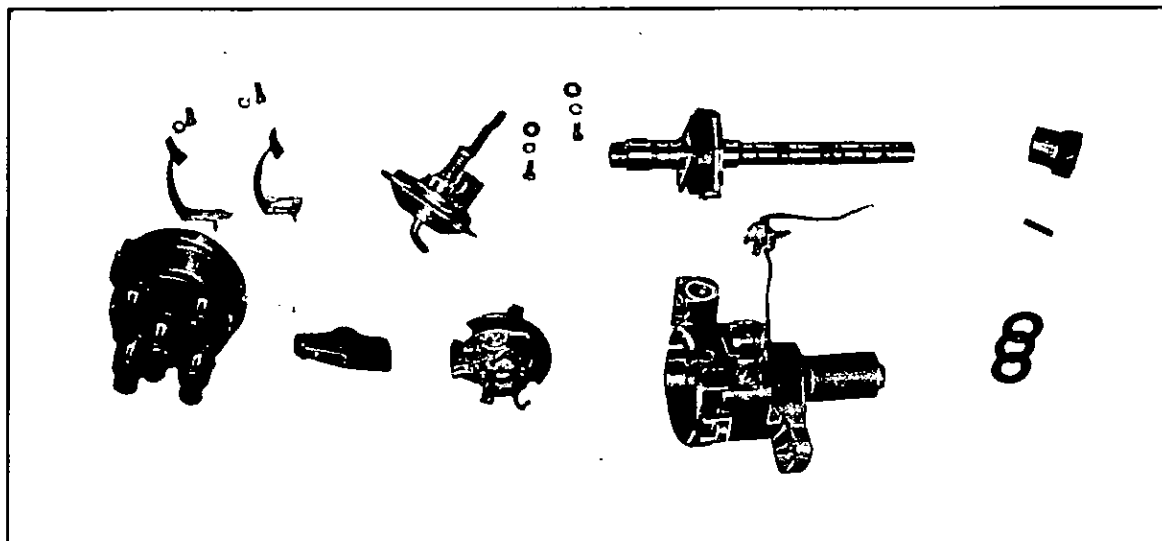

Fig. EE-93 Exploded view (D416-57, D423-53)
8. Figure EE-93 shows the exploded view.